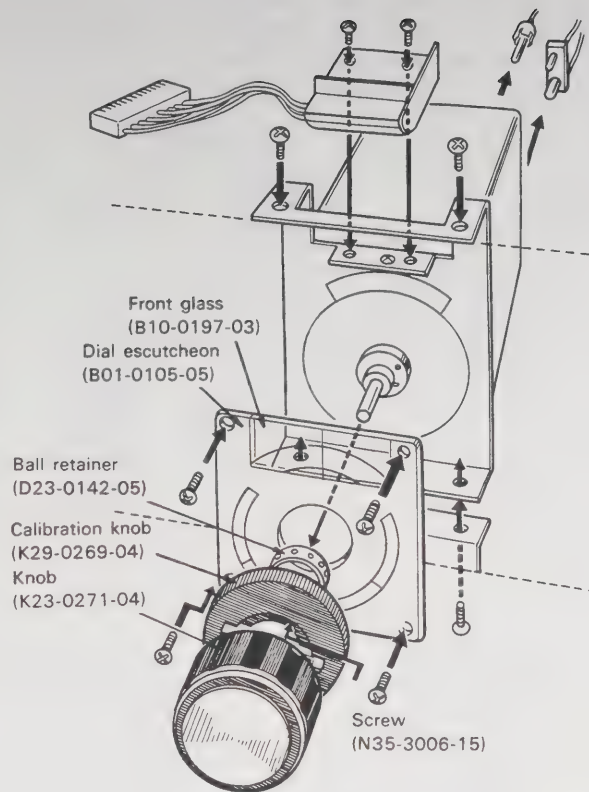

Fig. 14 Removing VFO
- 2) Remove the dial escutcheon and front glass according to **Fig. 14**.
- 3) Remove the four mounting screws from the VFO unit and subchassis of the body front according to **Fig. 14**.
- 1) Remove the knob and dial escutcheon as shown in **Fig. 14**.
- 6) Install the dial escutcheon and knob as shown in **Fig. 14**.